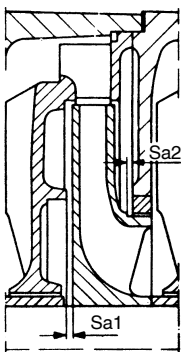

Fig. 53 Checking the total axial clearance.
5. Mount all the following stages in similar fashion each stage consists of stage casing (108), diffuser (171.1), casing wearing ring (502), flat gasket (400.2), impeller (230), key and stage sleeve (521). Underpin the stage casings (108) in turn after assembly.
6. After assembly of each individual stage, check the total axial clearance "Sa1 + Sa2" of the pump rotor. (approx. 6 mm., see Fig. 53)